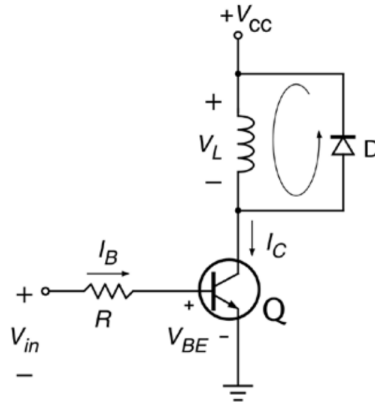
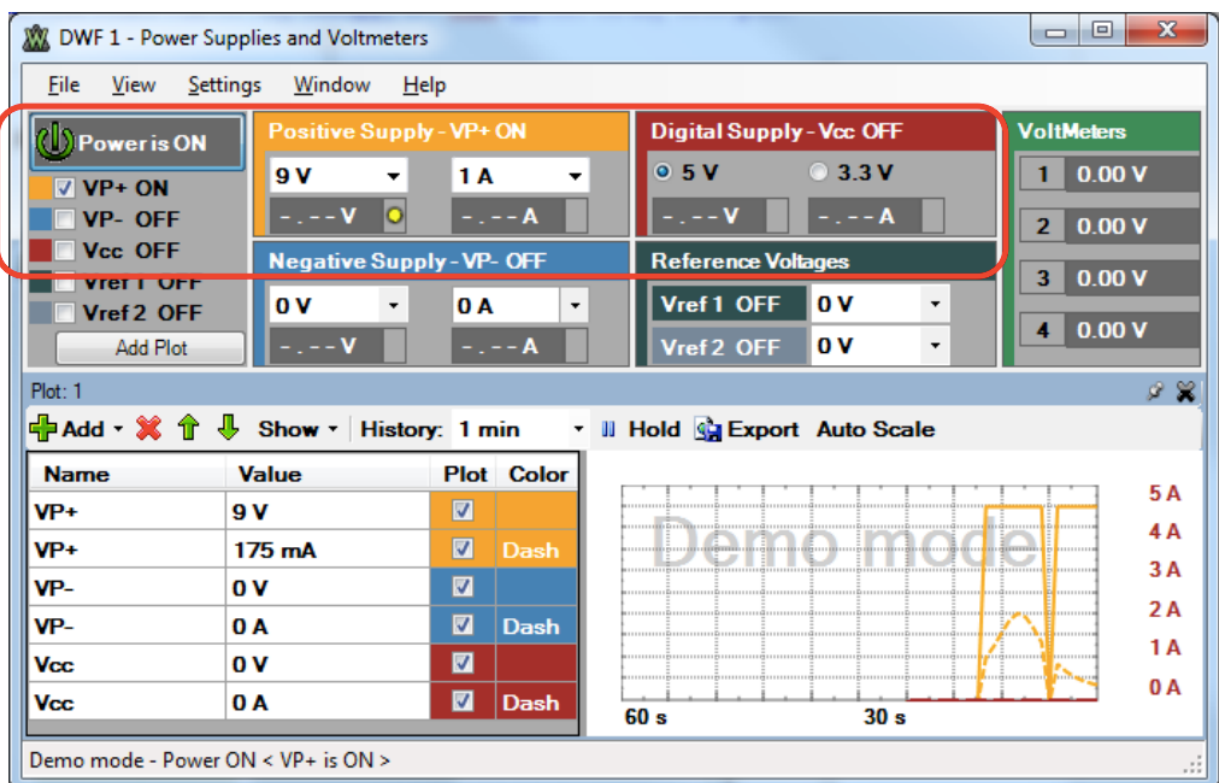

Figure 1: Speaker drive circuit using a single transistor; input V_{in} is from the microcontroller.
Figure 2: *Waveforms* window, showing positive power supply VP+ set on
The single switch speaker drive circuit shown in Fig. 1 has been presented in the lab lecture; review the lecture slides to understand the various elements. Some design considerations are described next. This circuit, usually used to drive a motor, can also be used to drive a simple 8- Ω speaker; this is because directly connecting the speaker to the GPIO pins will attempt to sink more current than the GPIO pins can safely supply. Therefore, the 8- Ω speaker can be approximated the same as a simple DC motor.
As illustrated in Figure 1, a power supply will supply the amplifier. The Digilent EEboard has adjustable positive and negative power supplies, labeled VP+ and VP-, respectively, on the power distribution block located at the bottom of the board. Output voltages are adjustable from 0 to $\pm 9\text{ V}_{\text{DC}}$, with current limits adjustable from 0 to 1.5A. These values are selected in the *Waveforms Power Supplies and Voltmeters* instrument, as shown in Figure 2. Note that power must be turned on (in the upper left pane) and button “VP+ ON” must also be checked.
The VP+ output will be used to supply the speaker drive circuit (also labeled V_{CC} in Figure 1). The VP+ supply is to be configured for 9 V_{DC} with current limit 1.5 A. The ground connection of the VP+ supply is the ground connection in Figure 1. (The VP- supply is not used for this lab)
Important Note: The notation V_{CC} is widely used to denote power supplies, but this can create confusion when multiple power supplies are in a system. The notation is used two different ways in this lab, i.e. two different power supplies are both labeled V_{CC} . In *Waveforms*, the notation V_{CC} refers to the fixed supply (3.3 or 5 V_{DC}), which is not needed here, and can be turned OFF. But the same notation V_{CC} is used in Figure 1 to denote the power supply for the speaker drive circuit, which runs on 9 V_{DC} . BE VERY VCAREFUL to distinguish between the various uses of the symbol V_{CC} . The microcontroller board will be very unhappy if 9 V_{DC} appears on any of its pins!
- a. Circuit shown in Figure 1
- b. Circuit shown in Figure 1 with diode polarity reversed
- c. Circuit shown in Figure 1 with two diodes: one as shown and one with its polarity reversed